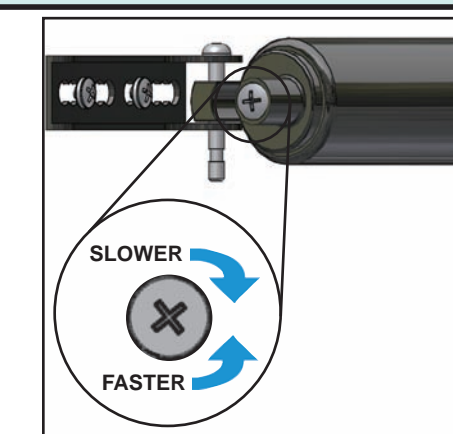

Figure 20
1. Locate the adjustment screw at the end of the closer that attaches to the door frame (Figure 20).